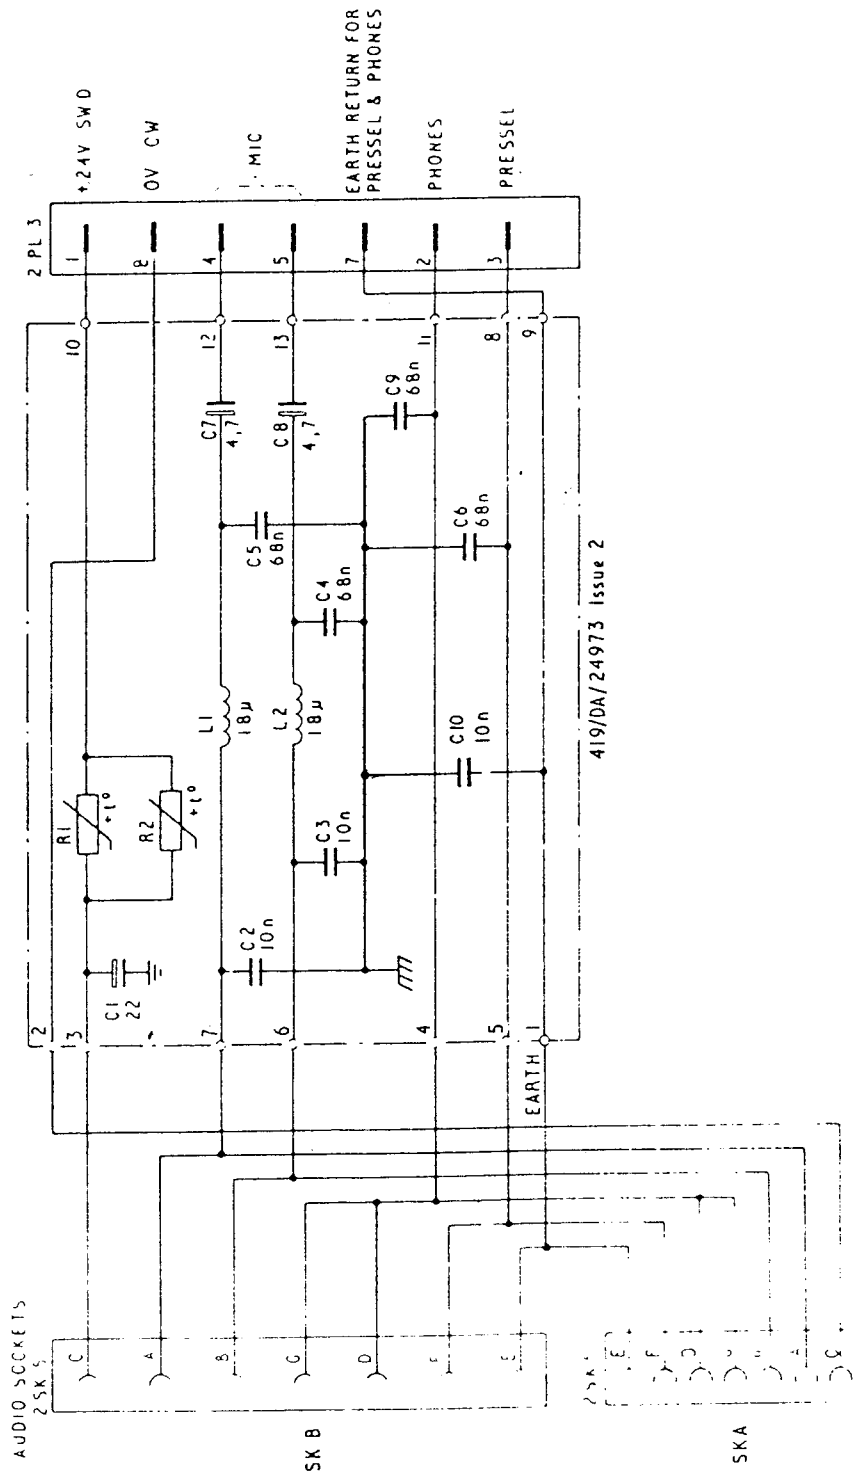

Fig 1 Unit 2g RF decoupler - circuit
3. A circuit diagram of the unit is given in Fig.1.
4. A circuit diagram of the assembly is given in fig.1. Each filter (fig.2) is a two-section, low pass; Darlington type configuration. The value of components differ in each filter to provide the following characteristics: